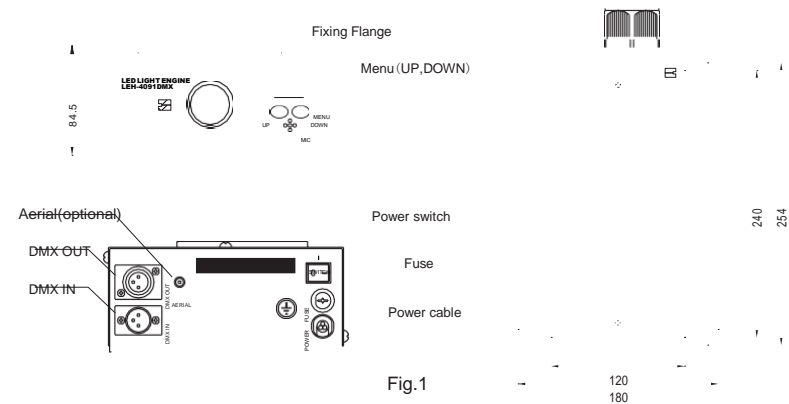

Fig.1
2. Installation dimension of light engine(see Fig.1):